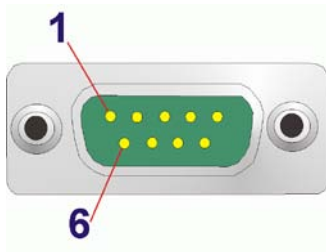

Figure 3-30: Serial Port Pinout Locations
- CN Pinouts: See **Table 3-31** and **Figure 3-30**